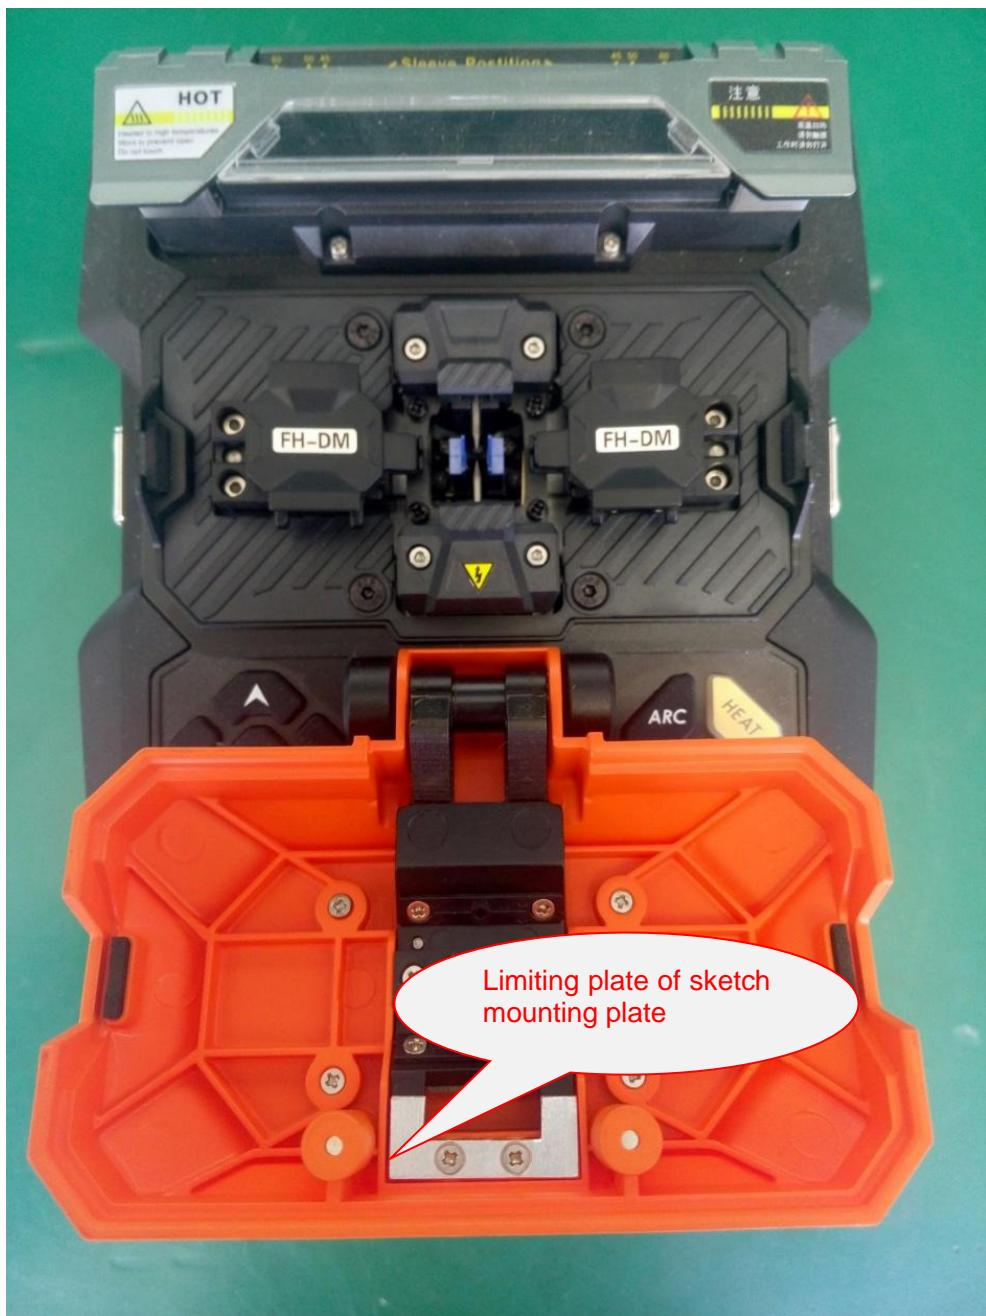
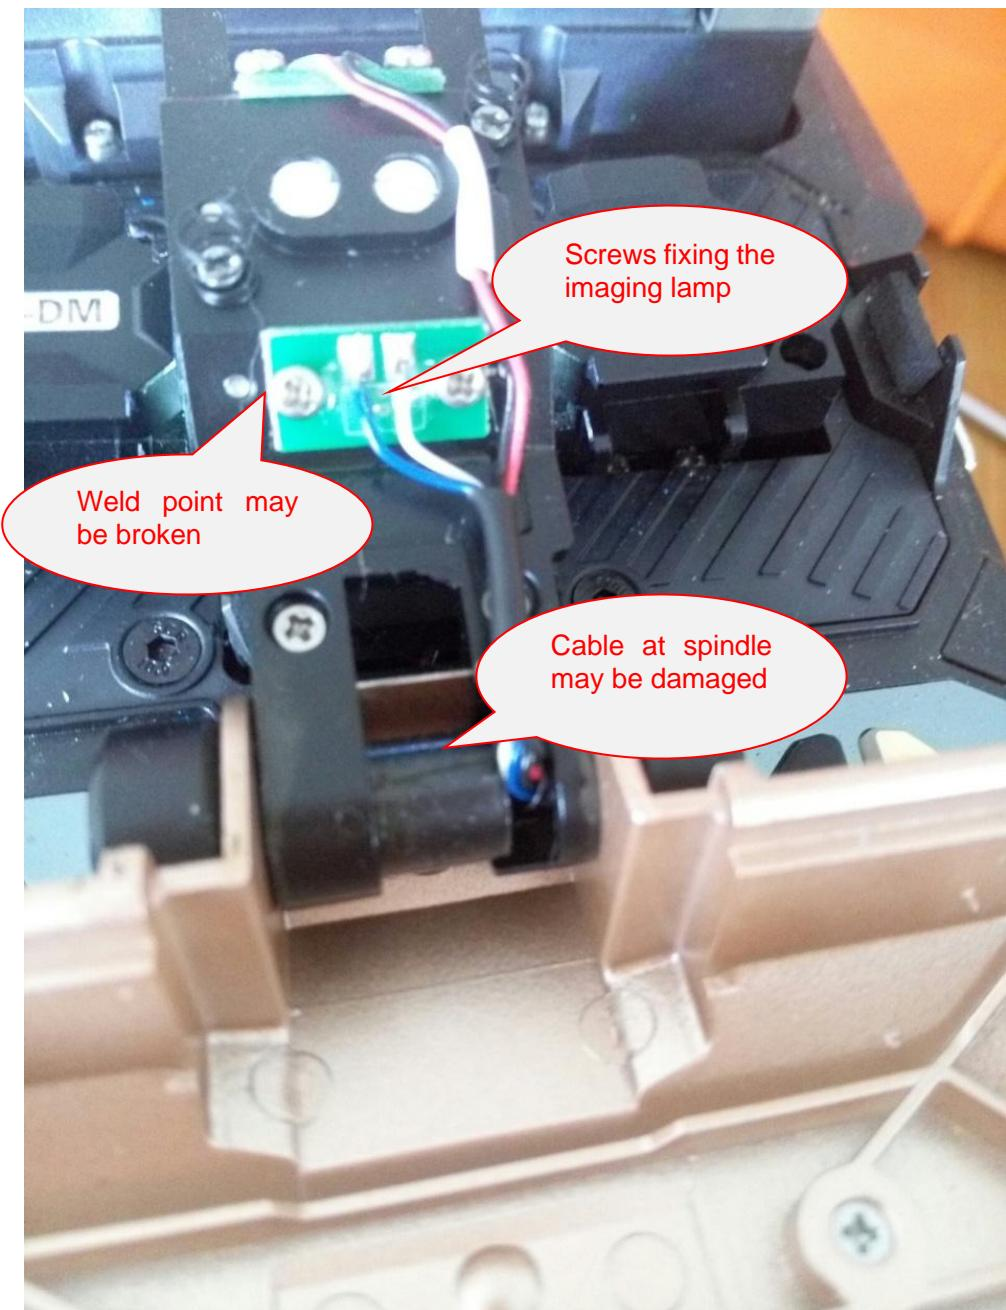

Fig.10 Sketch mounting plate
Fig.11 Imaging lamp
- ① As shown in Fig.10, remove the limiting plate of sketch mounting plate to present the imaging lamp, and remove 4 screws fixing the imaging lamp (Fig.11).